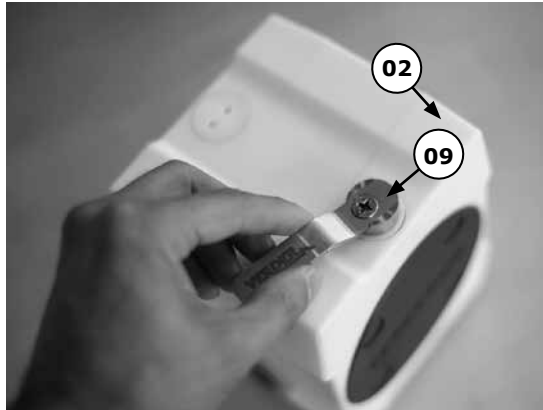

Figure 4
To have access to the valve seats and balls you do not need to disassemble the pump. Unscrew the liquid plug (09) at the top of the side housing (02-03) (see Figure 4). Take out the spacer (13) and the valve ball